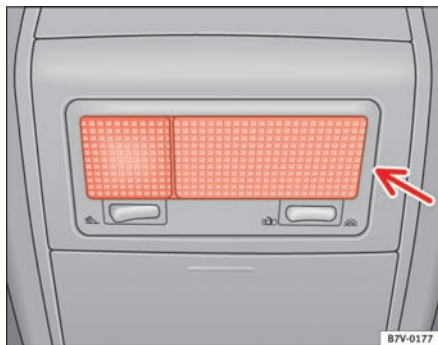

Fig. 171 Reading lights
- Turn the lampholder of the back of the lamp in the direction of the arrow ⇒ fig. 171 and separate.